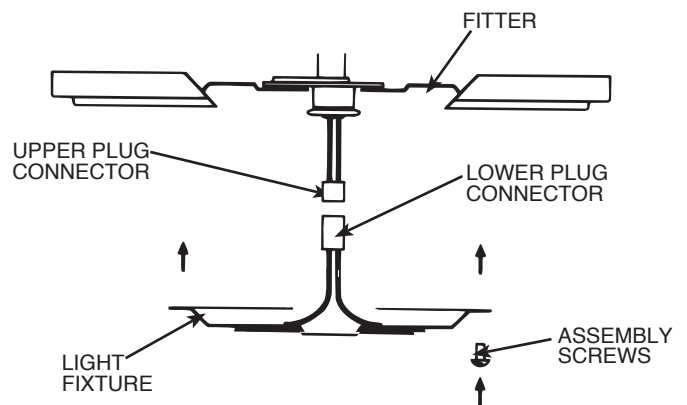

Figure 9A
B. Attach the light fixture to the fitter using (2) screws. Plug the upper and lower plug connectors together. Tighten the (2) screws securely. See Figure 9A.